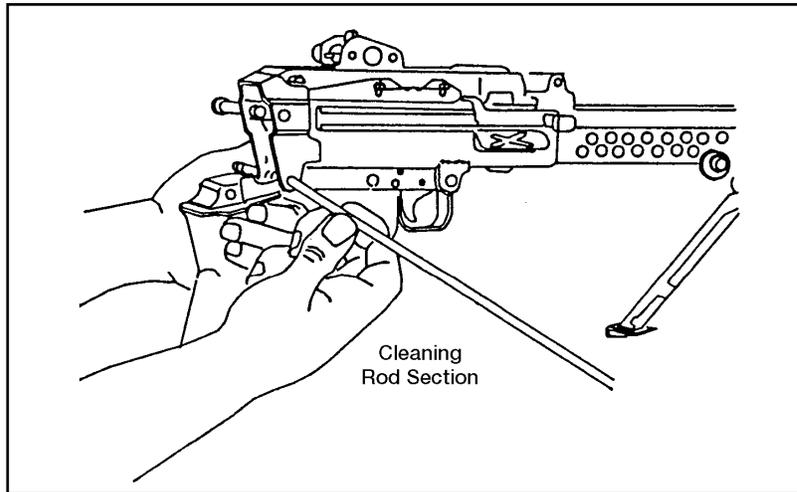

Figure 071-312-4025-11. Removal of the buttstock and buffer assembly
h. Remove the trigger mechanism by pulling rearward and down (figure 071-312-4025-12).